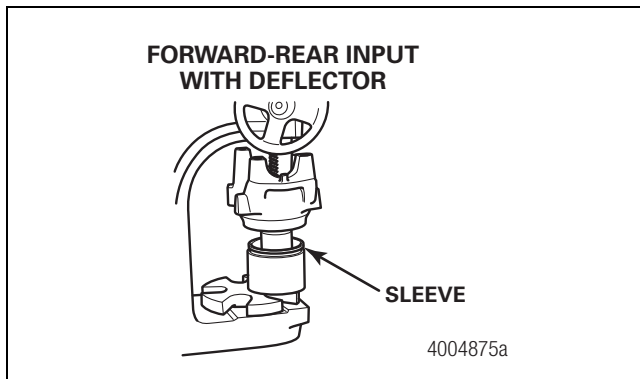

Figure 8
7. Use an arbor press and the appropriate driver to install the sleeve onto the yoke. Verify that the sleeve is correctly positioned on the yoke. Figure 8.